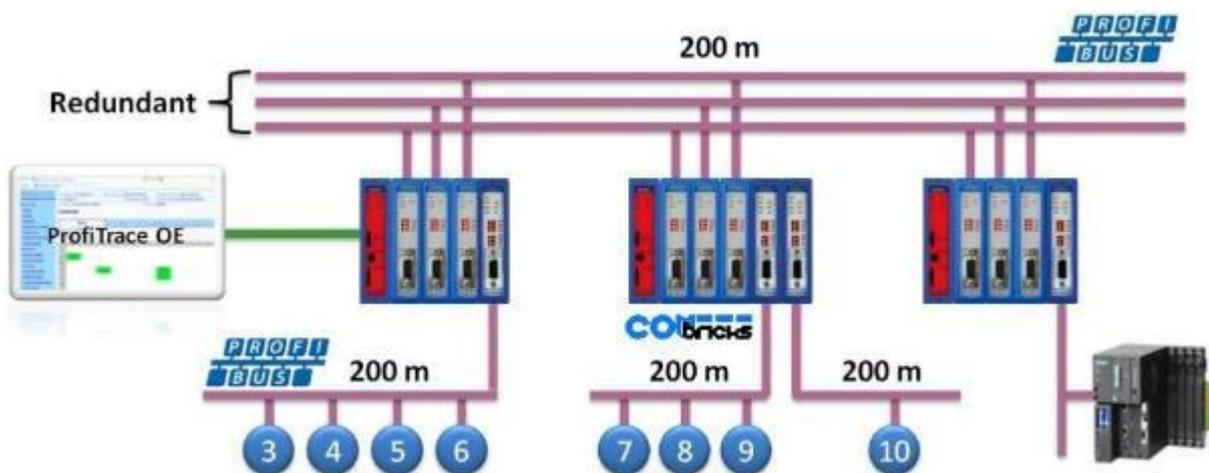

Fig. 59 - Application with 3 redundant segments
**Fig. 59** illustrates an application with 3 redundant segments. 3 Repeater modules of each ComBricks are set with the RED switch set to ON and are wired to the redundant segments.